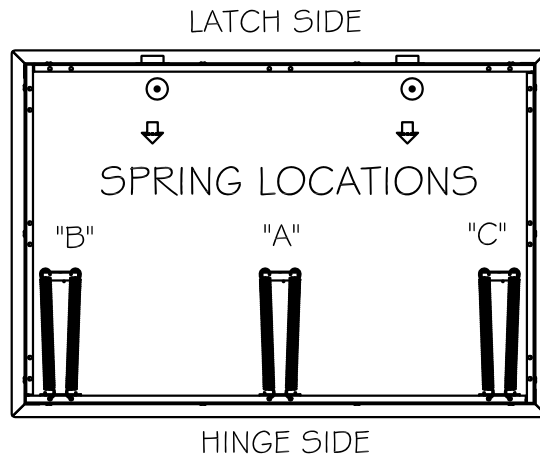

fig. 2
5. Install springs per reference table, **fig. 2.** Self-closure of door is required for UL or Warnock-Hersey fire rating. Neglecting to install springs will void the fire-rating.